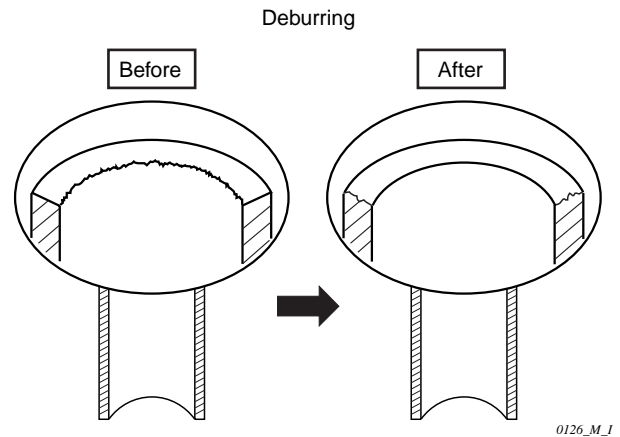

Fig. 8-1
- (1) Cut the copper tube to the required length with a tube cutter. It is recommended to cut about 30 — 50 cm longer than the tubing length you estimate.
- (2) Remove burrs at the end of the copper tube with a tube reamer or file. This process is important and should be done carefully to make a good flare. (Fig. 8-1)